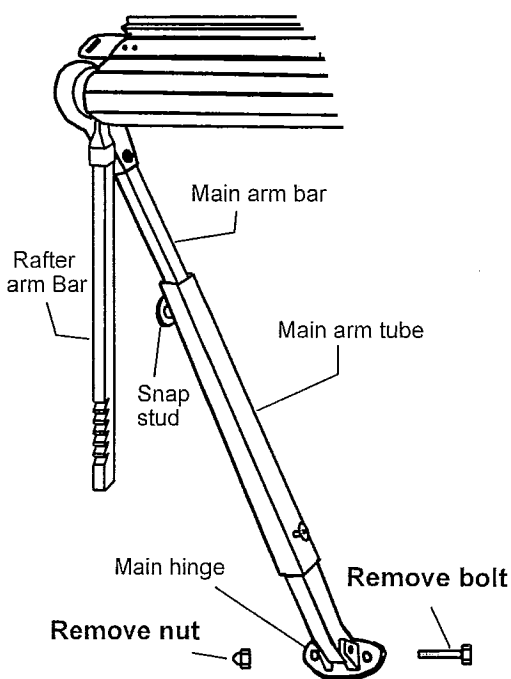
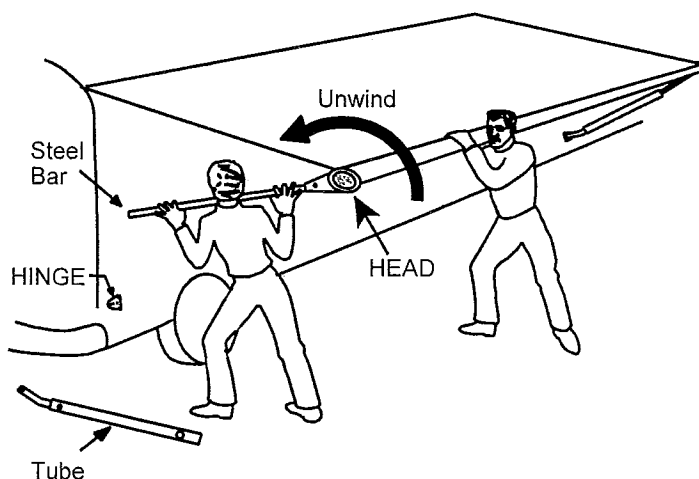

Figure A1
Figure A2
2. Set the front rafter arm and the front Z- Lock, if any, to lock the awning open. Support the roller tube as shown in **Fig. A2**. *Caution Main arm may be under spring tension.* Unbolt rear main arm from the lower main hinge (**Fig. A1**) and slide the main arm tube assembly off of the main arm bar.
3. Using the main arm bar as a lever, unwind the spring completely by turning the main arm bar counter-clockwise. (**Fig. A2**) The number of turns will vary with the length of the awning. It will be approximately the length of the awning plus 7 (e.g. 21' awning; 28 turns).
b) Remove and discard the 10-32 x 1 1/2" machine screw(1) and locknut(5) securing Head Casting(2) to the shaft(3). Set Arm aside.
c) Slip off Rafter Arm(4) and set aside.
- The single torsion spring is wound by turning the head casting clockwise (facing forward), using the stainless steel support arm bar as a lever (see Fig.A2).